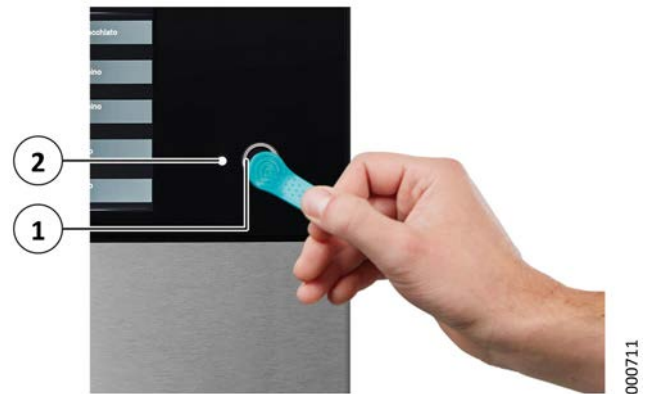

Fig. 3: Logging in with a chip key
An LED (2) (see Fig. 3) next to the chip key contact surface shows the current status of the machine: